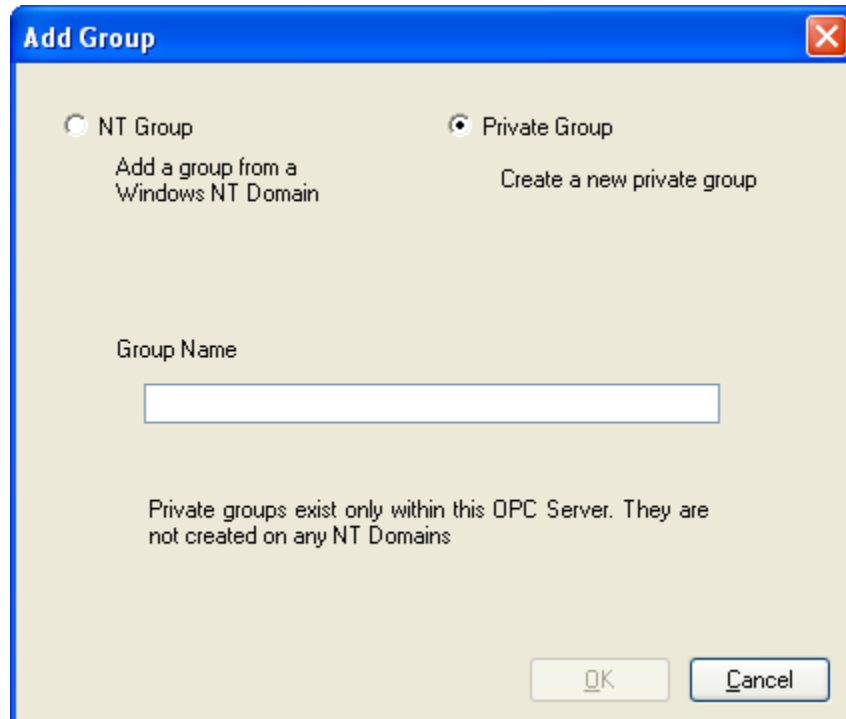

Figure 48 - Add Group Window (Private)
3. Select the **Private Group** option button (Figure 48).